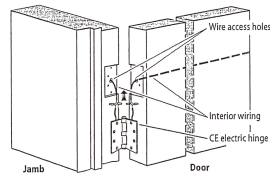

Figure 1- Hinge mounted on center position
2. De-burr wire access holes so that they are free from all burrs and sharp corners. See Figure 1.
6. Make the appropriate connections of the interior wiring to the hinge wiring. See Figure 1. See also "Notes on electric hinge wires".